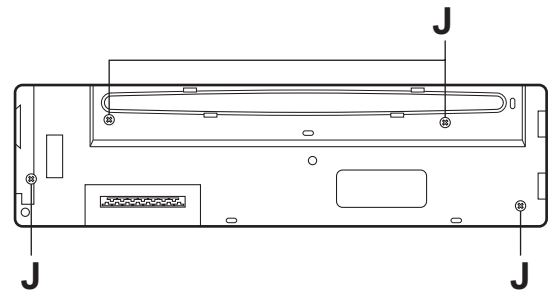

Fig.10
### 2.1.8 Removing the front board (See Figs.10 to 12)
**(See Figs.10 and 11)**
- (1) Remove the clamper arm spring.
- (2) Move the clamper assembly in the direction of the arrow to release the two joints **d**.